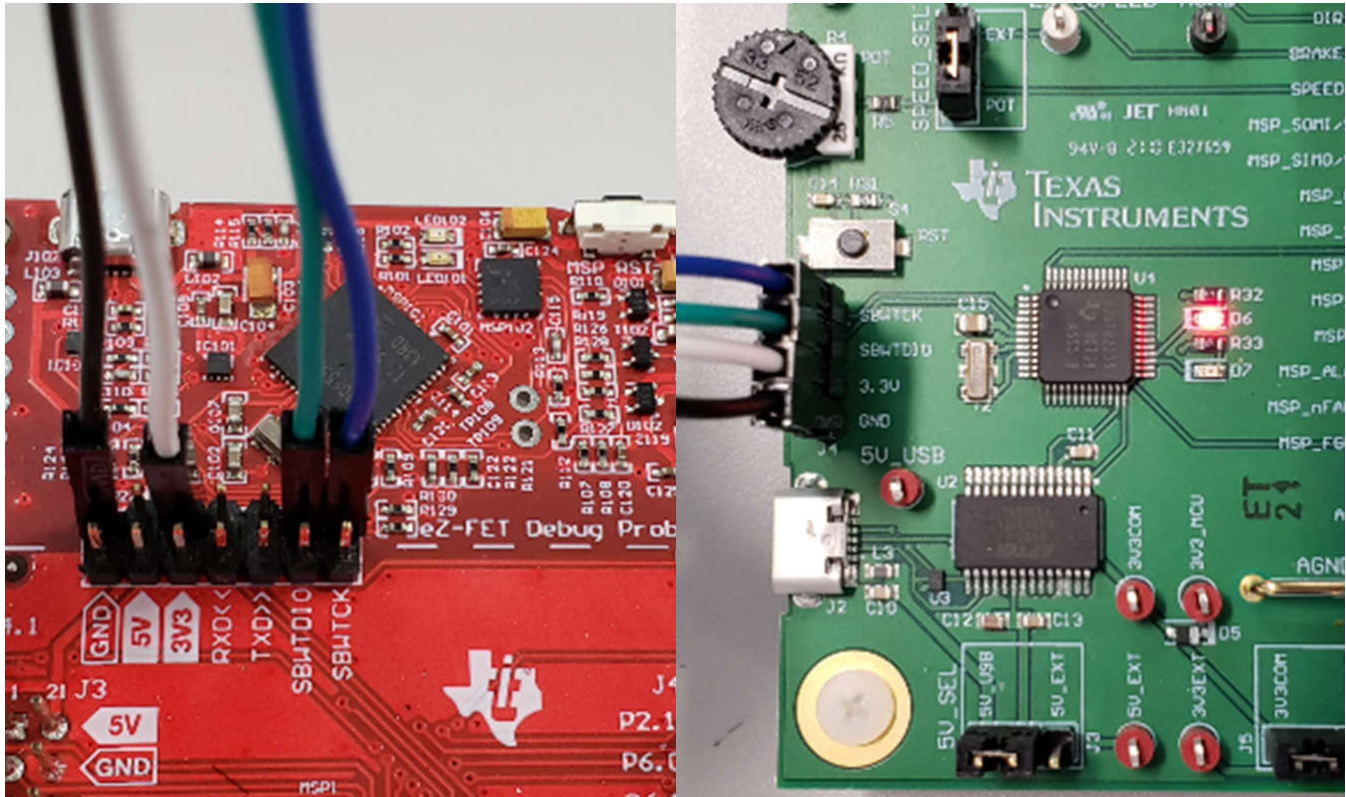

Figure 3-3. MSP430 LaunchPad™ Development Kit eZ-FET Debug Probe Connected to MSP430FR2355
2. Connect the top pins on the eZ-FET side of the LaunchPad development kit of the GND, 3V3, SBWTDIO, SBWTCK signals to the respective pins on J5 of the MCF8329HSRRYEVM as shown in Table 3-1 and Figure 3-3.